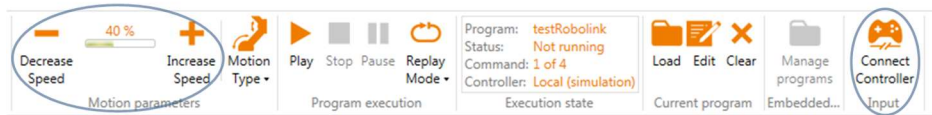

Figure 7.6: Control icons for moving the Robot (marked in blue).
1. **Software buttons** allow to select "Motion Type", which include three modes and in each case the movement speed can be changed between 0 and 100% (Figure 7.6):